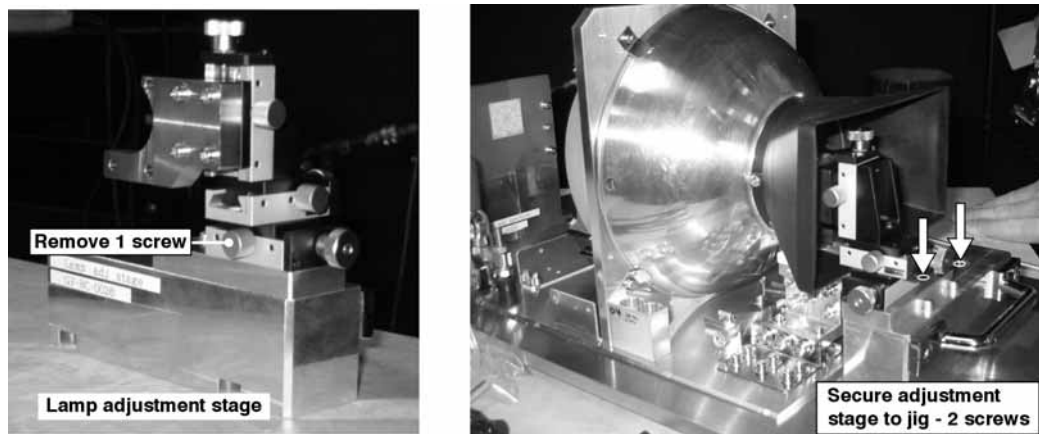

Figure 8 – Install XYZ Stage
11. Remove the front screw on the XYZ stage (Figure 8 – Install XYZ Stage8). If the front screw is not removed when installing the XYZ stage it interferes with the plastic lamp air duct on the lamp module.
12. Install the XYZ stage onto the dowel pins at the back of the lamp (Figure 8 – Install XYZ Stage8). Adjust the XYZ stage to ensure it does not push on the lamp. Tighten the locking screws.